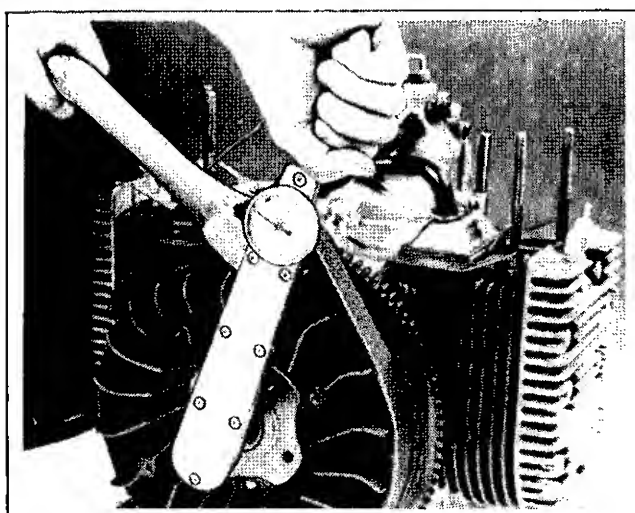

Figure 8-32. Torquing Flywheel Retaining Screw
4. Use a torque wrench to tighten the flywheel retaining screw to 40 ft. lbs. (see Figure 8-32). Hold flywheel with a Kohler strap wrench (part no. 52 455 03) while torquing nut. (See Section 1 -"Special Tools".)